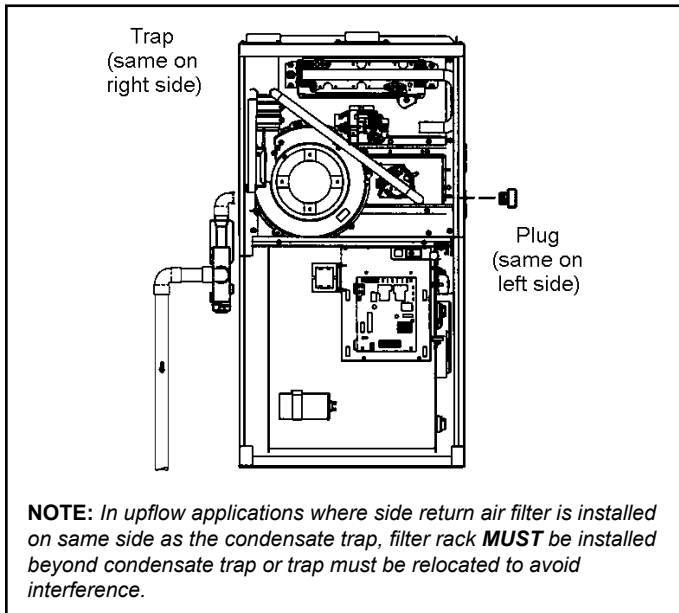
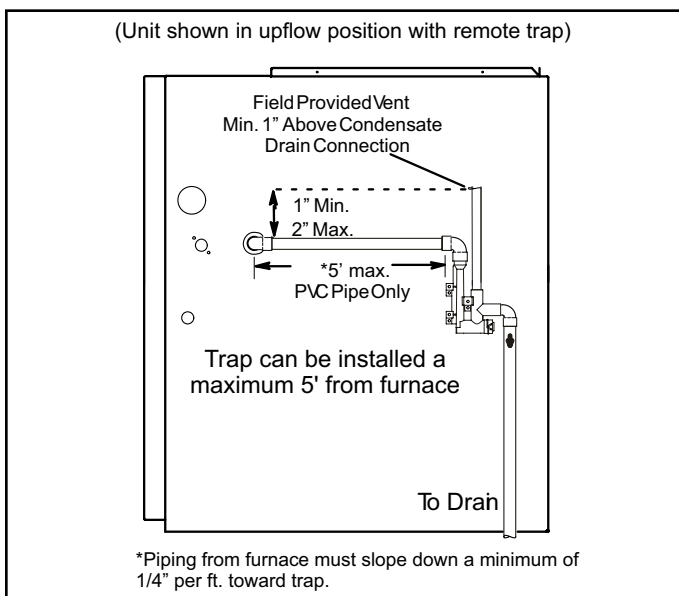
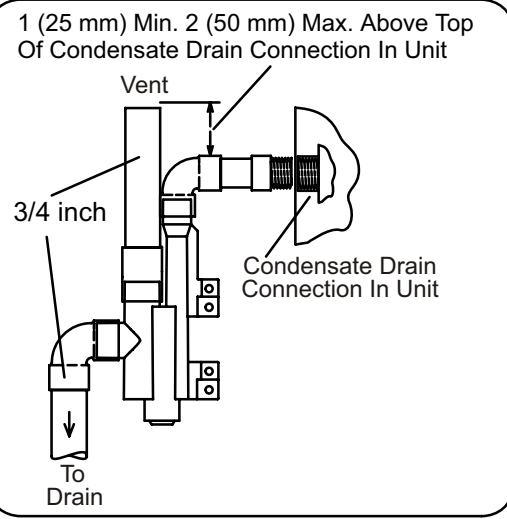

Figure 40. Condensate Trap and Plug Locations (unit shown in upflow position)
Figure 41. Condensate Trap Locations
Figure 49. Trap / Drain Assembly Using 1/2" PVC or 3/4" PVC Cold End Header Box with 1/2 Drain Connection
This unit is designed for either right- or left-side exit of condensate piping in upflow applications. In horizontal applications, the condensate trap must extend below the unit. An 8" service clearance is required for the condensate trap. Refer to Figure 40 and Figure 41 for condensate trap locations. Figure 48 and Figure 49 show trap assembly using 1/2" PVC or 3/4" PVC.
2. Use a large flat head screw driver or a 1/2" drive socket extension and remove plug (Figure 40) from the cold end header box at the appropriate location on the side of the unit. Install provided 3/4 NPT street elbow fitting into cold end header box. Use Teflon tape or appropriate pipe dope.
3. Install the cap over the clean out opening at the base of the trap. Secure with clamp. See Figure 48 and Figure 49.
4. Install drain trap using appropriate PVC fittings, glue all joints. Glue the provided drain trap as shown in Figure 48 and Figure 49. Route the condensate line to an open drain. Condensate line must maintain a 1/4" downward slope from the furnace to the drain.